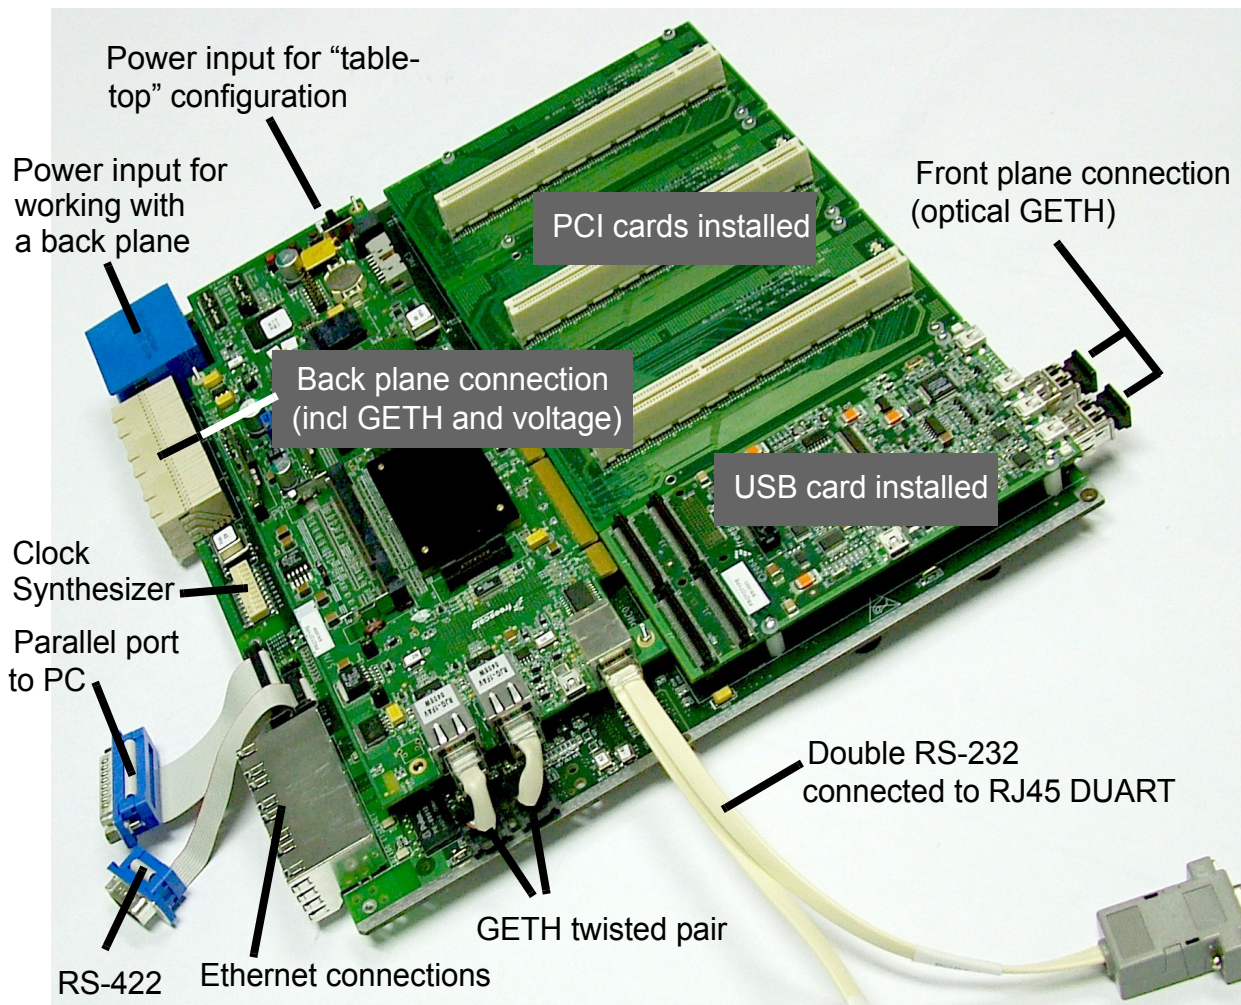

Figure 2-11 Fully Assembled Combined system:
9. The fully assembled PIB-Processor board is shown in Figure 2-11.